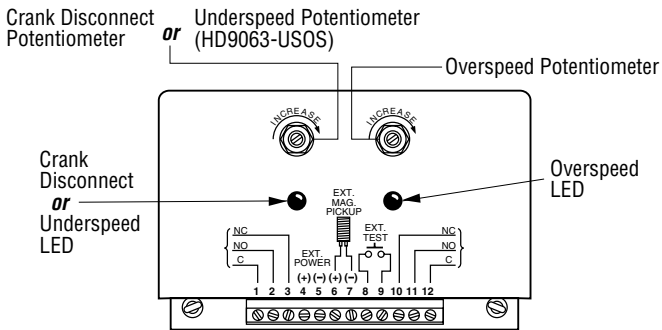

Figure 6
Adjustment of the Dual Set point Speed Switch is performed when the system is otherwise operational in all respects. See **Figure 6** for location of Crank Disconnect, Underspeed and Overspeed potentiometers.
6. While engine is cranking, slowly turn Crank Disconnect Set point potentiometer counterclockwise until Crank Disconnect LED lights (**Figure 6**). Engine should stop cranking.
6. If a test push button is installed, press push button and verify that overspeed LED (**Figure 6**) flashes and engine shuts down or switch trips.
6. If overspeed test push button is installed, press push button and verify that overspeed LED (**Figure 6**) flashes and engine shuts down or switch trips.